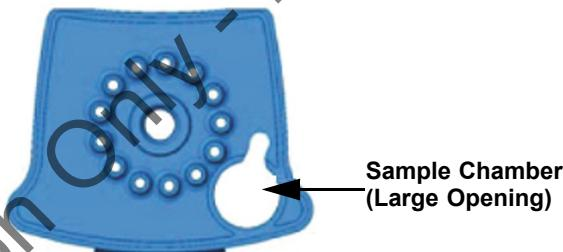

Figure 1. Xpert MRSA NxG test Cartridge (Top View)
4. Open the cartridge lid. Using a transfer pipette (not provided), transfer the entire contents of the Elution Reagent vial to the Sample Chamber of the Xpert MRSA NxG test cartridge. See Figure 1.
5. Open the cartridge lid. Using a transfer pipette (not provided), transfer the entire contents of the Elution Reagent vial to the Sample Chamber of the Xpert MRSA NxG test cartridge. See Figure 1.